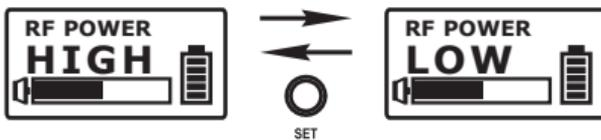

Fig. 13
9. RF POWER: RF Power Selection, Fig. 13.
- (A) Press MODE button to access RF POWER and the parameters start blinking and is ready to be changed.
- (B) Press SET button to set HIGH or LOW.
- (C) Press MODE button to save or the parameter saves automatically when blinking stops.
- (D) HIGH has 50mW transmitting power. LOW has 10mW transmitting power. Set appropriate power to meet region/country regulations.